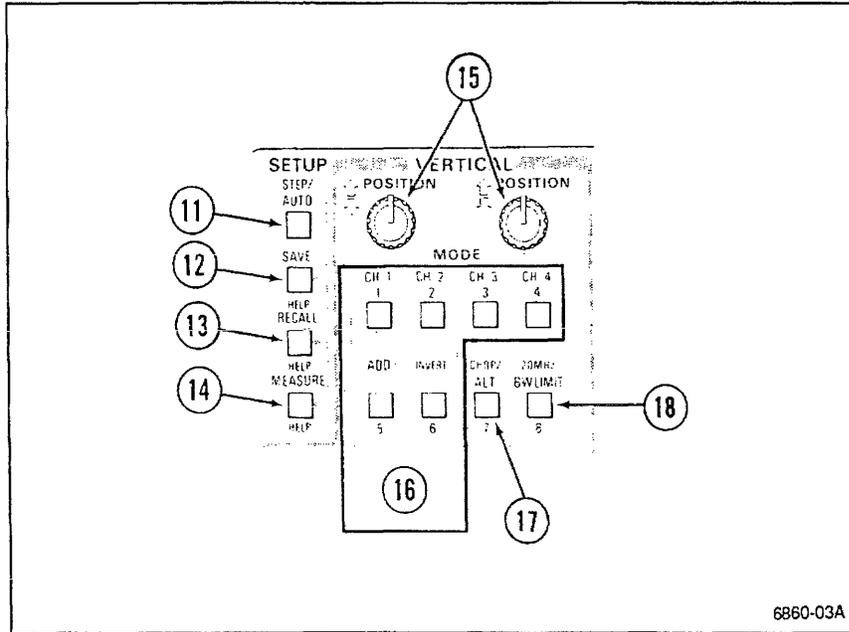

Figure 5-2. SETUP and MODE buttons, and CH 1 and CH 2 POSITION controls.
Refer to Figure 5-2 for the location of items 11 through 18.
- 16 **MODE Buttons** Select the indicated channel(s) for display. Any combination of the five possible signal selections can be displayed by pressing the appropriate buttons. The Channel 1 signal will be displayed if none of the displays are selected. Each button has an associated indicator to show when the respective display or characteristic is active. Pressing a button toggles the display or characteristic on or off. When pressed after pressing SAVE or RECALL, these buttons select setup memories (1) through (8).